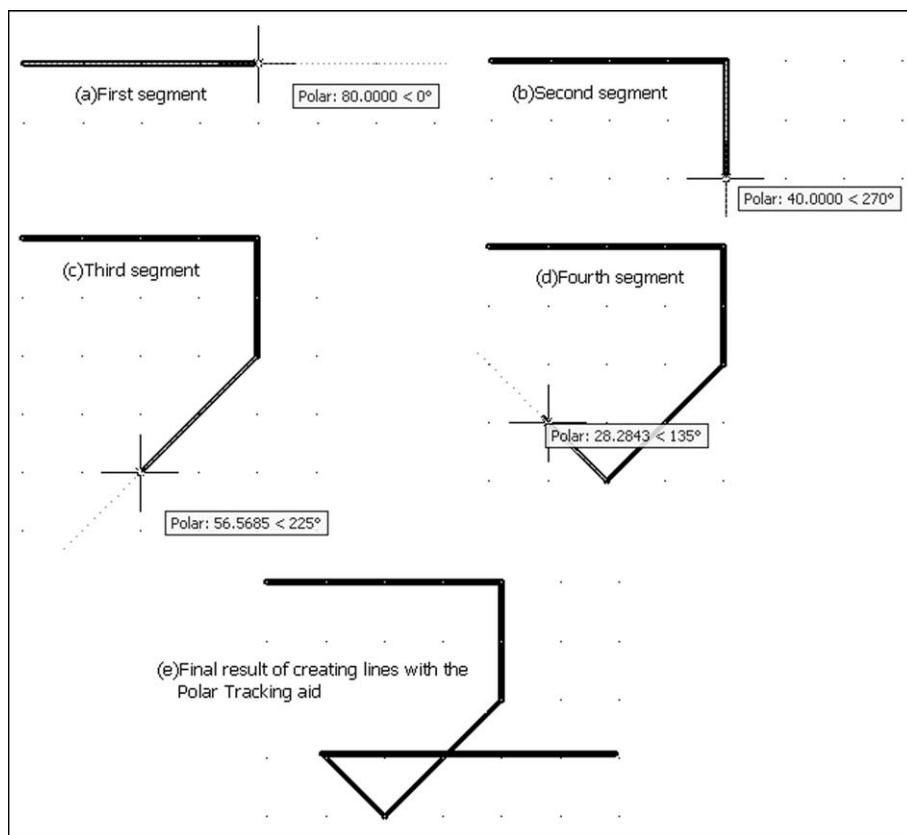

Figure 4.4 Using the Polar Tracking drawing aid to create line segments.
b) move until the tracking data is Polar: 80.0000 < 0 degree as Figure 4.4(a) then left click
- 7 Move the cursor vertically downwards until 40.0000 < 270 degree angle is displayed as Figure 4.4(b) then left click.
- 8 a) move the cursor downwards and to the left until a 225 degree angle is displayed as Figure 4.4(c)
- 9 a) with the SNAP off (F9 press) move upwards to left until a 135 degree angle is displayed as Figure 4.4(d)
- 11 The result of drawing the five line segments with polar tracking is Figure 4.4(e)